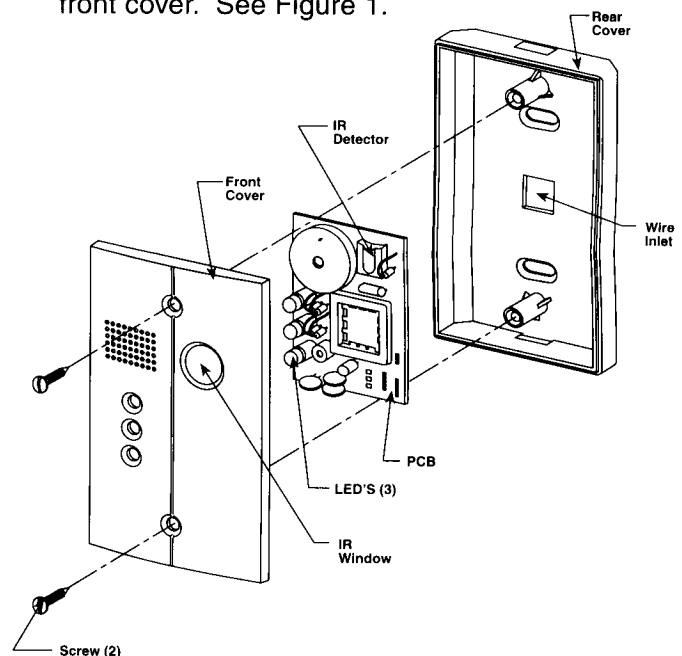

Figure 1 Moose 401 Disassembly
1. Remove the printed circuit board (PCB) from the front cover. See Figure 1.